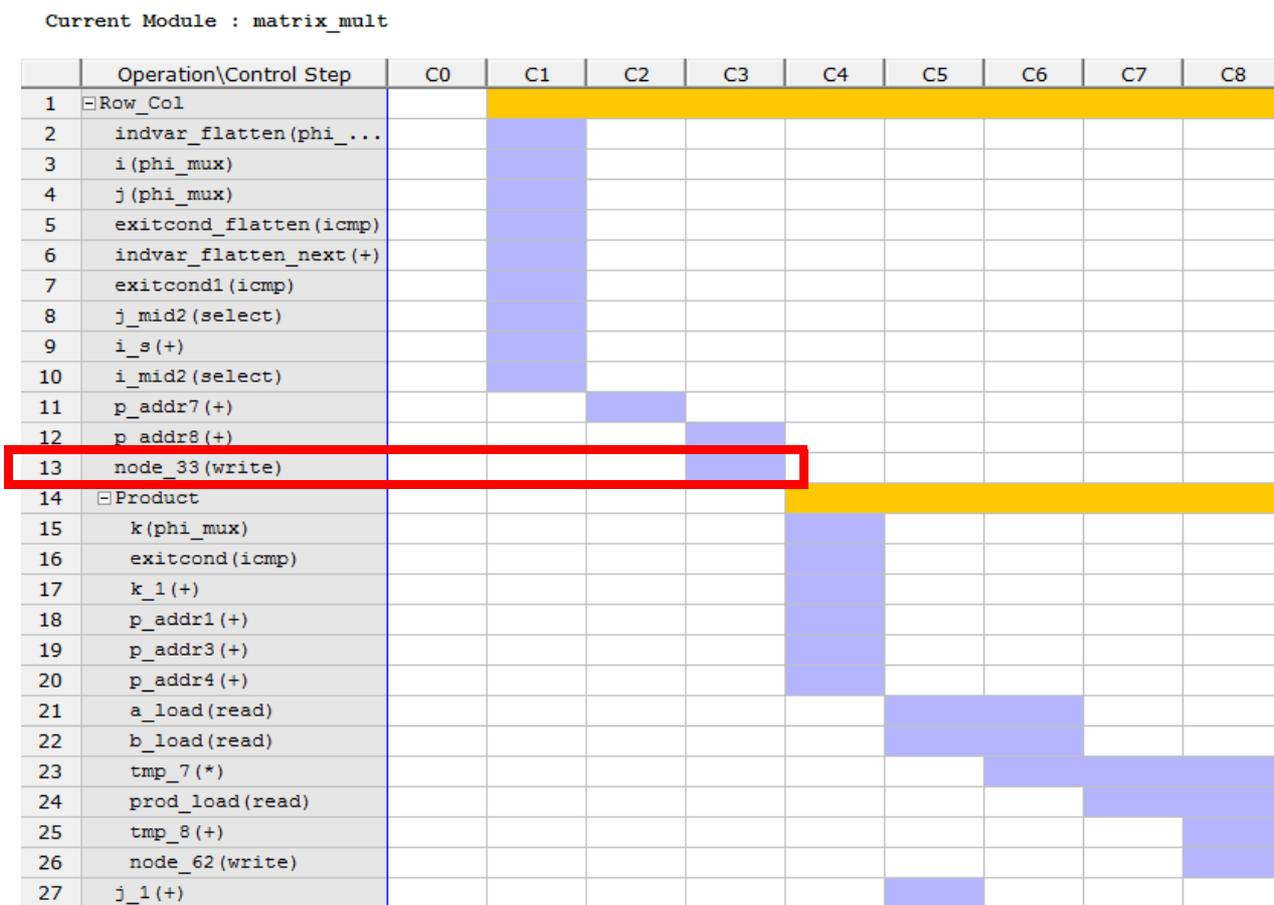

Figure 3.13: Performance view for solution2
- (i) Expand the loops *Row_Col* and *Product* by clicking on them to obtain the view shown in Figure 3.13.